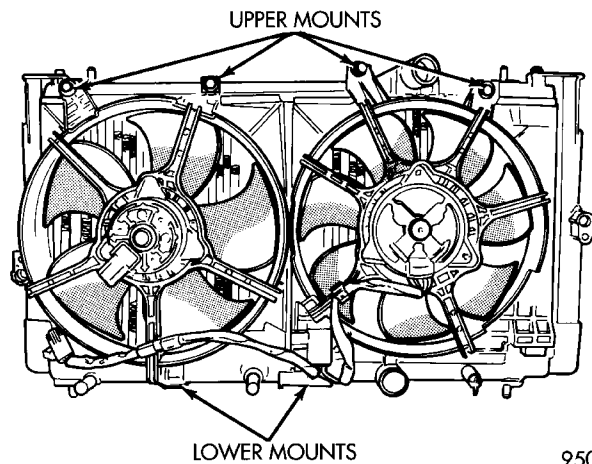

Fig. 24 Servicing Fan Module
- (1) Disconnect fan motor leads from module.
- (2) Remove fan module fasteners from radiator (Fig. 24).